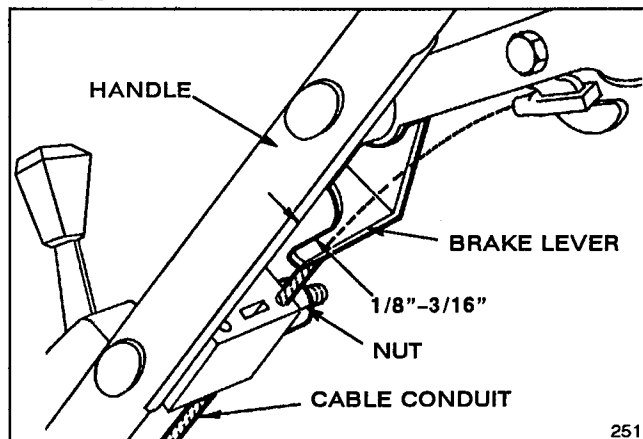

Figure 22
2. **CHECK ADJUSTMENT** (Fig. 22)—Move control bar toward handle until slack in wire is removed. Gap between brake lever and handle must be $1/8$ "– $3/16$ ". See step 3 for adjustment.
3. **ADJUST CABLE CONDUIT** (Fig. 22)—Loosen nut on cable bracket. Insert $1/8$ "– $3/16$ " object between brake lever and handle. Pull down on cable conduit until all slack is removed from wire. Then tighten nut.